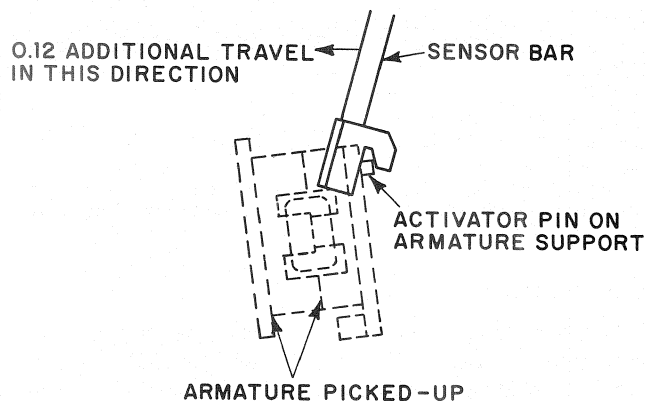

Fig. 41. Activator pin engaged in sensor bar with contactor energized
3. To assure "Free-Closing" of armature in connection with sensor bar, a min. of .12 inch of additional travel of sensor bar should exist when armature is fully picked up. (See Fig. 41.)